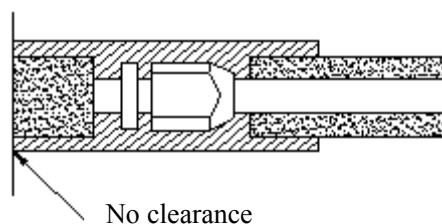

Fig.13
- 3) Joints at indoor and outdoor units should be wrapped with insulating material and leave no clearance between pipe and wall. See Fig.13.